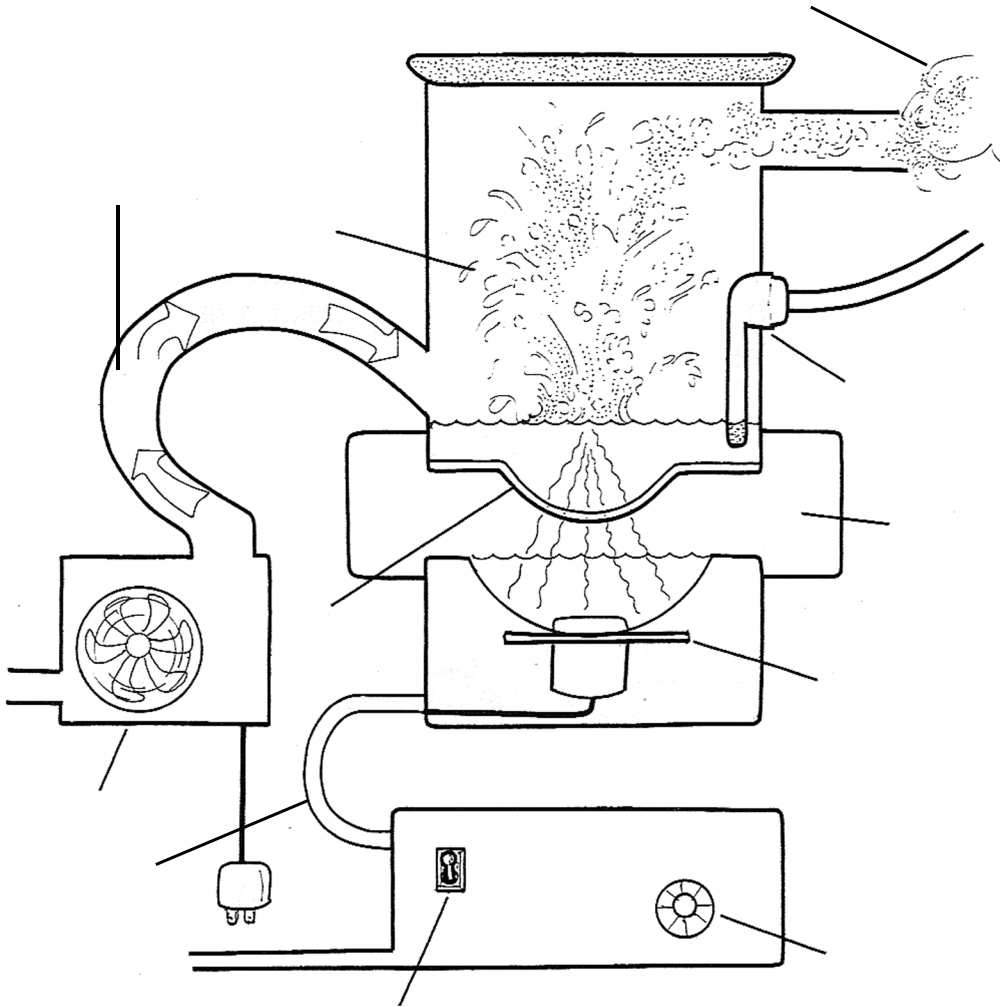

Fig. 4
4. Identify the following parts on an ultrasonic nebulizer and label Fig. 4.